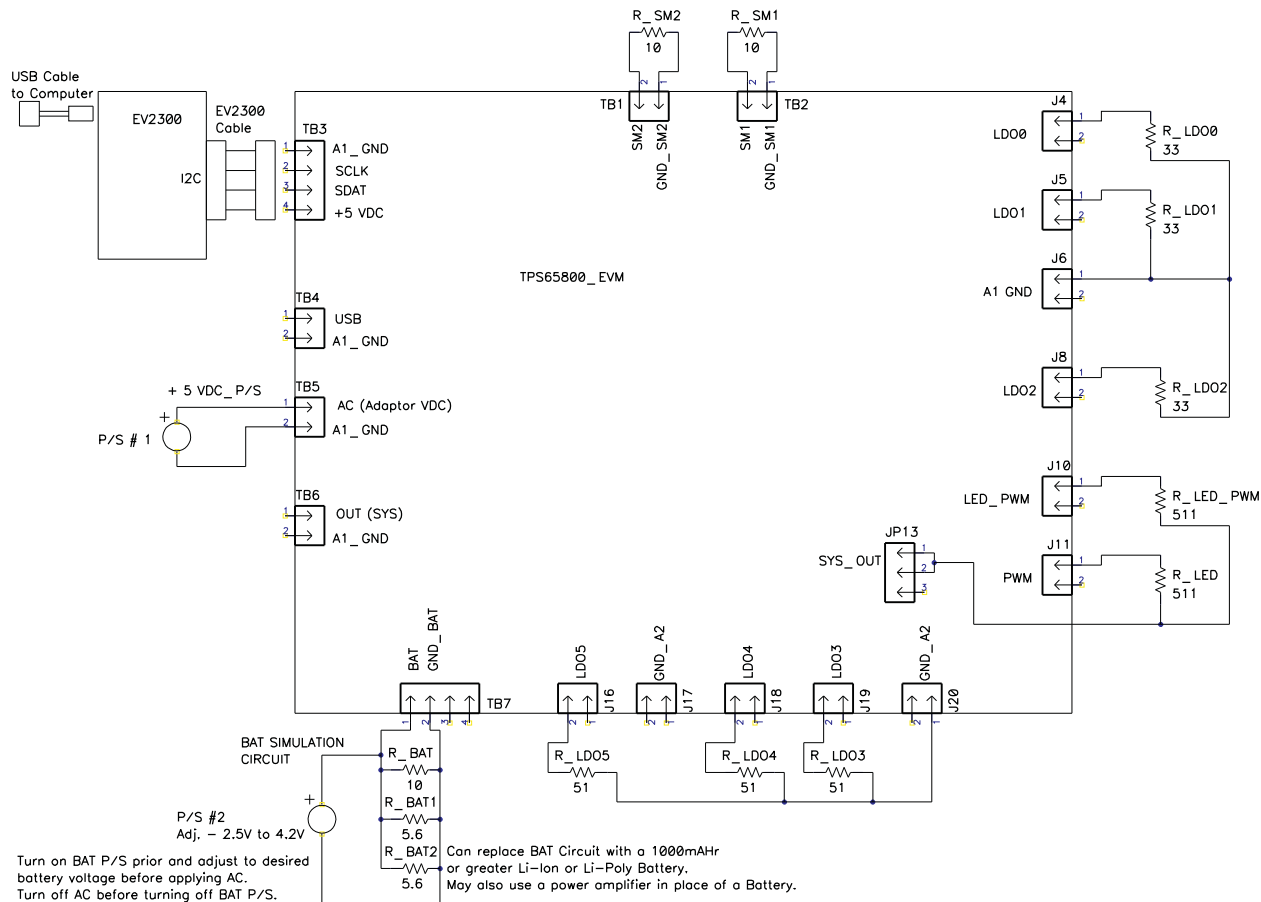

Figure 2. Equipment and EVM Setup
3. SM1/2 load board; 10-Ω, 1-W resistor load for each output TB1-1/2 and TB2-1/2. See Figure 2.
4. LDO load board: 33-Ω, 1-W each for J4-LDO0 to A1 GND, J5-LDO1 to A1 GND, J7-LDO2 to A1 GND; 511-Ω, 0.5-W pullup resistors J10-LED_PWM to TP29-SYS_OUT and PWM to TP29-SYS_OUT; 51-Ω, 1-W load resistors for J19-LDO3 to A2 GND, J18-LDO4 to A2 GND, J16-LDO5 to A2 GND. See Figure 2.
5. Battery-simulated load board: Two 5.6-Ω, 20-W and one 10-Ω, 5-W resistors in parallel and connected TB7-1/2 (~2.19 Ω). See Figure 2.
- Connect the loads shown in Figure 2. These are suggested loads, but the user can substitute any load that is within the specification of the IC. The PWM and LED_PWM are open-drain outputs and require a external pullup resistor to OUT (System Power). TB6-1 or TP29 can be used as a source for SYS_OUT.
- Connect the battery-simulated load board shown in Figure 2 below UUT; leave bias supply off. A single-cell Li-ion battery can be used in place of the simulated battery if quick battery voltage adjustment is not needed for evaluation. The battery supply should be the first supply on and the last supply off to avoid putting the BAT output on an unpowered external supply. A power Schottky diode can be placed in series with the positive lead (anode to P/S+) of the battery supply to protect the supply, if necessary.
- Preset P/S#1 to 5.1 VDC+/-0.1VDC, Current Limit to 2.5A, P/S#2 to 3.5VDC+/-0.1VDC, Current Limit to 2.5A, turn off supplies, connect P/S#1 to TB5-1&2 (+ to AC), and connect P/S#2 to TB7-1&2 (+ to BAT_OUT). See Figure 2.